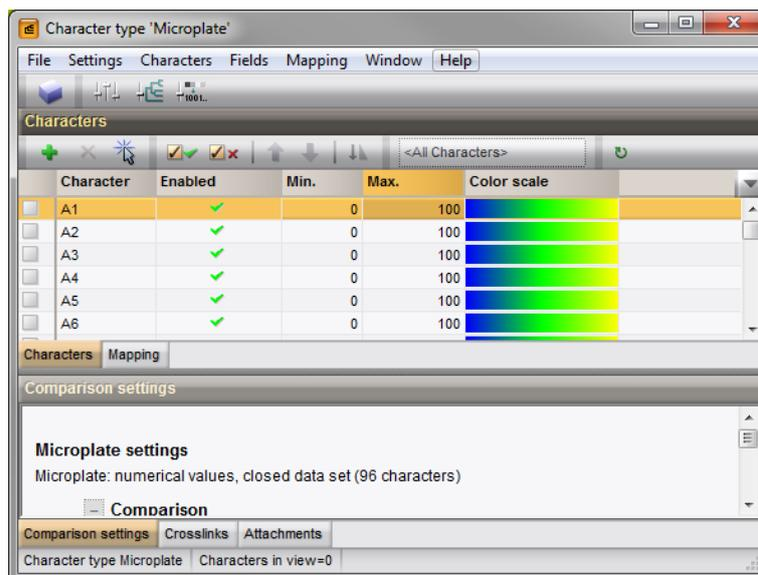

Figure 5: The character type **Micro plate**.
14. Press <OK> to apply the created color scale to all characters in the list (see Figure 5).